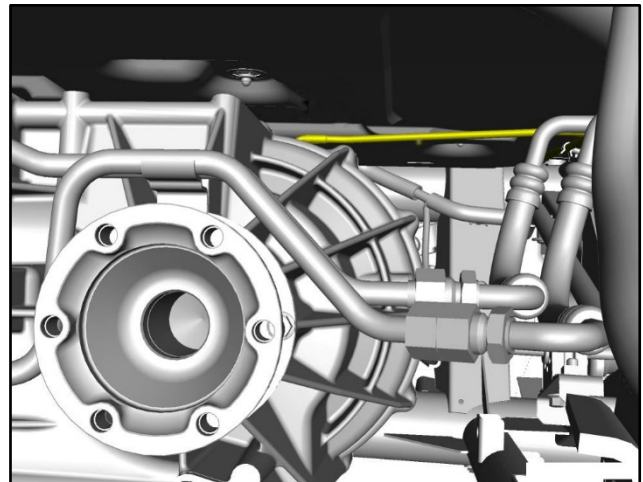

Figure 58
- 114.** Install the breather pipe for the transaxle (refer to Figure 58).